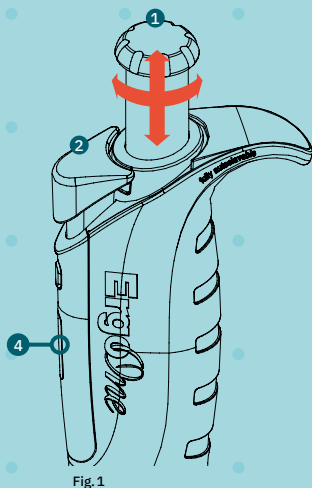

Fig. 1
Open the volume adjustment catch by pulling up the volume control button ① (Fig. 1), until you hear a click. Turn the volume control button ① clockwise to reduce the aspirated volume, or counter clockwise to increase it. The set volume is shown in the four-step volume display ④ from top to bottom, with a white line indicating the decimal point. When increasing the volume setting, pass the required value by 1/3 of a turn and then slowly decrease to reach the volume, making sure not to go beyond the required volume. After you have finished setting the volume, push the volume control button ① back to its lock position until you hear a click. The pipette is now ready to use.